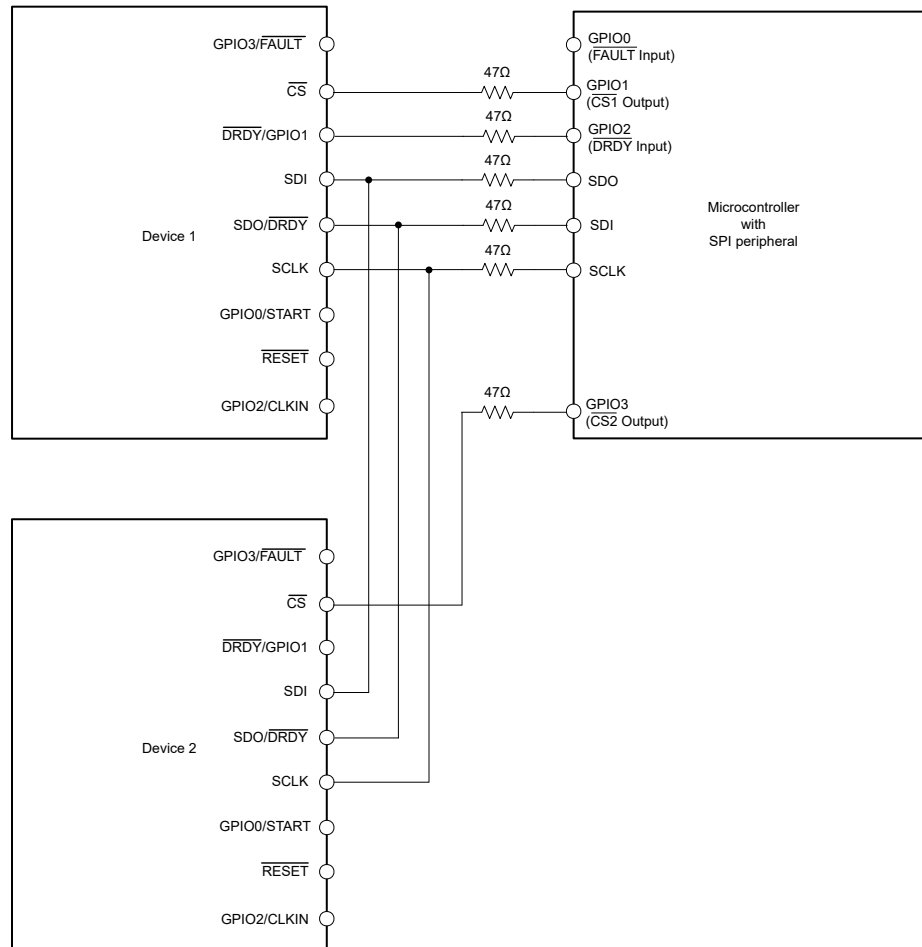

Figure 8-2. Multiple Device Serial Interface Connections using individual $\overline{CS}$ Signals
- Using a dedicated $\overline{CS}$ signal for each device as shown in Figure 8-2. All devices share the SCLK, SDI and SDO/DRDY signals in this case. Only the device with $\overline{CS}$ low drives the SDO/DRDY pin. The SDO/DRDY outputs of all other devices, which have $\overline{CS}$ high, are in a high-Z state to avoid contention on the SDO line. The host controller interfaces with each device one at a time.